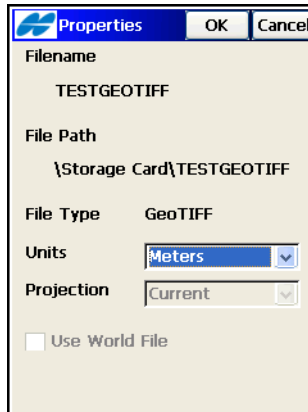

Figure 6-49. Properties of Background Image
- **OK** – opens the *Properties* screen (Figure 6-49 on page 6-44) for the selected file.